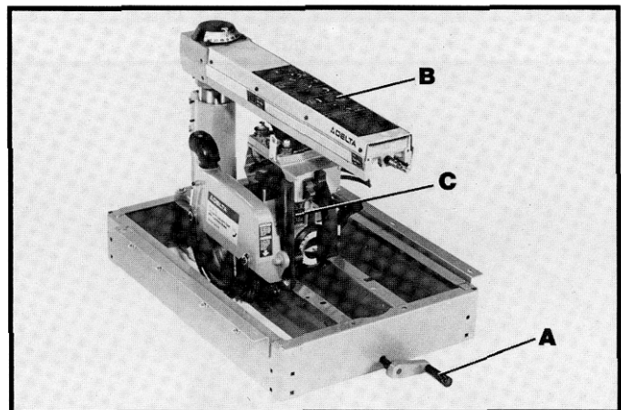

Fig. 4
1. Turn elevating crank (A) Fig. 4, clockwise, and raise track arm (B).
2. Remove packing material from around cuttinghead assembly (C).